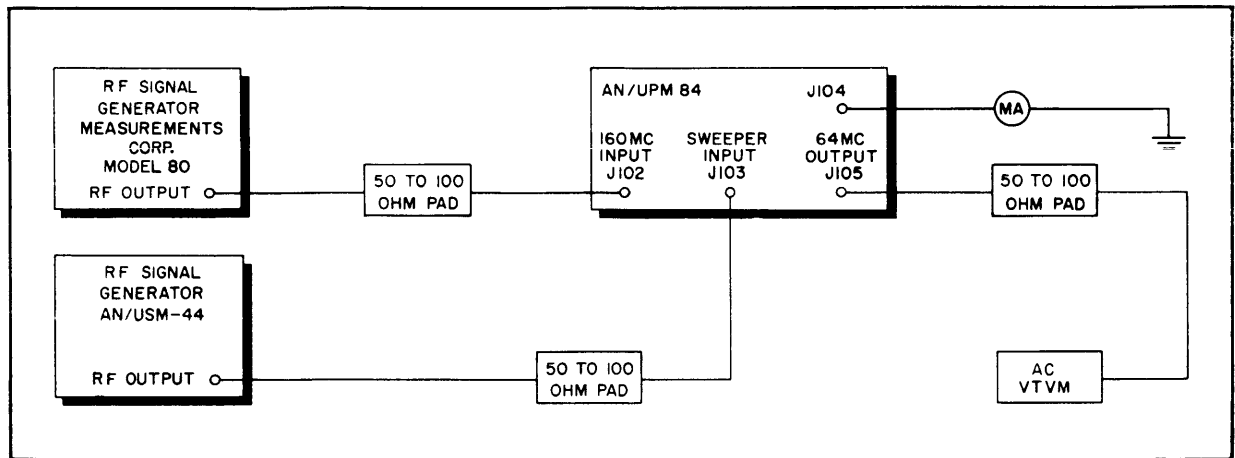
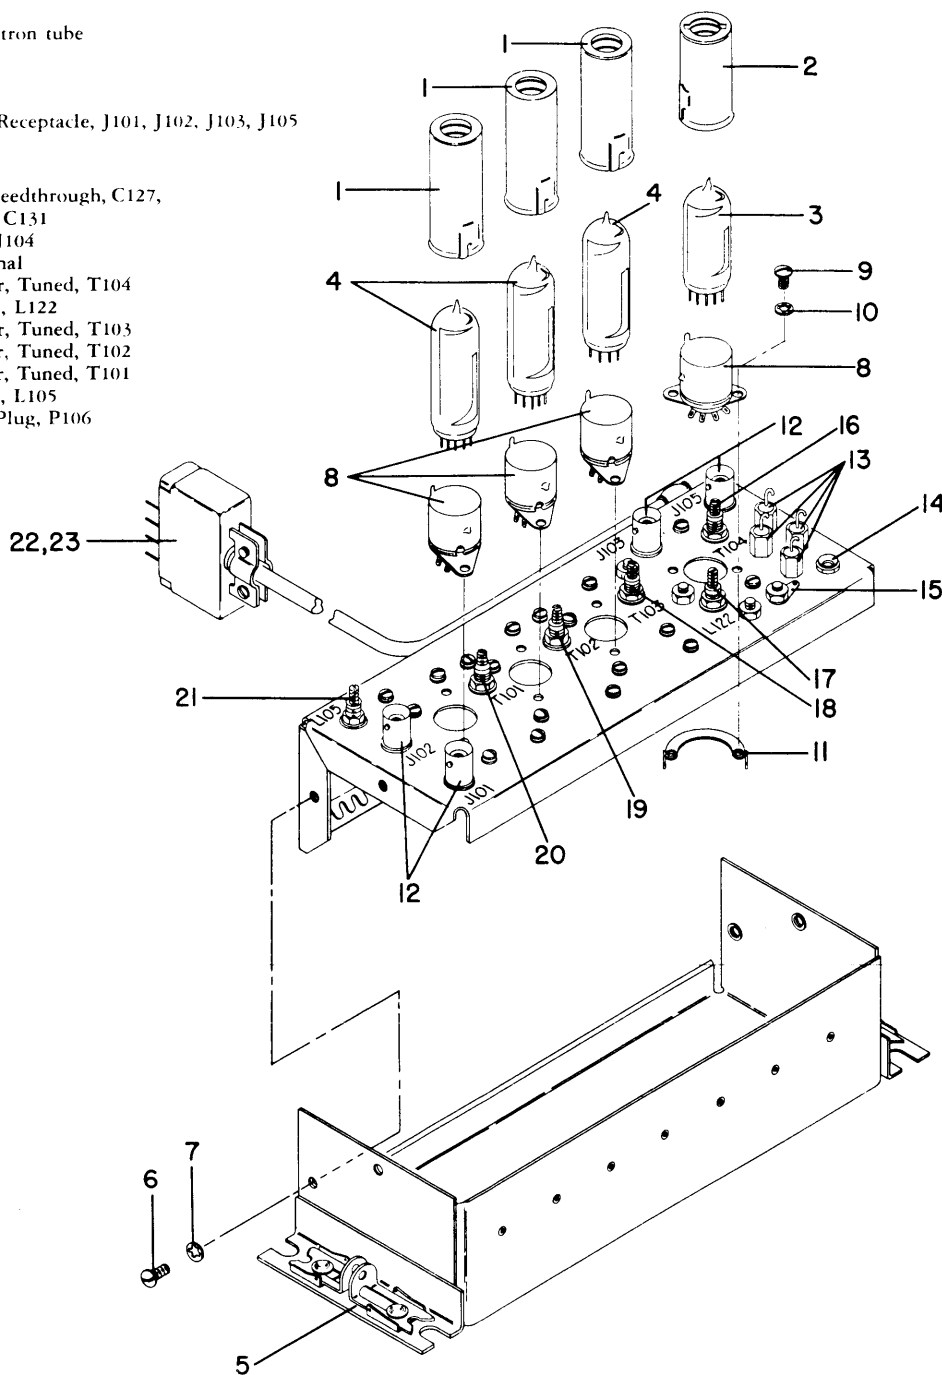

Figure 6-4. Checking Gain of Wide Band I-f Amplifier, Test Set-up Diagram
Figure 6-5. Wide Band I-f Amplifier, Exploded View
6-10. To check for minimum standards of wide band i-f amplifier gain, set up the equipment as shown in figure 6-4. Also refer to figure 6-5 for an exploded view of the wide band i-f amplifier chassis. The parenthetical numbers which follow refer to the index numbers of figure 6-5. Measure the gain of the wide band i-f amplifier over the pass band from 150 to 170 mc. A gain of approximately 50, at 160 mc, indicates satisfactory equipment performance. Failure to obtain this indication shows the need for re-alignment. Proceed as directed in the following steps:
b. Set the r-f output level of the Measurement Corp. Model 80 Signal Generator to cause the meter, connected to J104 (14), to indicate approximately 0.4 milliampere.
c. Peak transformers T101 (20), T102 (19), and T103 (18), to obtain a maximum indication on the milliammeter when applying test frequencies of 160 mc, 171 mc, and 149 mc, respectively. A minimum current indication of approximately 0.4 milliampere should be maintained during alignment adjustments, to assure uniform gain over the passband.
d. Check the i-f response for a nominal bandwidth of 25 mc (about a center frequency of 160 mc) to yield a maximum of 3 db fall-off at plus or minus 12.5 mc. Readjust T101 (20), T102 (19), and T103 (18), if necessary, to obtain correct frequency response.
f. Check the 64 mc stage by setting the AN/USM-44 Signal Generator to 64 mc, and applying the test signal to the SWEEPER INPUT jack, J103 (12).
g. Peak L122 (17) and T104 (16) for maximum indication on the vtm.
i. Shift the output of the AN/USM-44 Signal Generator from the SWEEPER INPUT jack, J103, to the 160 MC INPUT jack, J102. Apply the maximum amplitude test signal available, at 64 mc, and tune L105 (21) for a voltage minimum.
j. Check the overall operation of the wide band i-f amplifier by applying test signals, as shown in figure 6-4, of 224 mc to the SWEEPER INPUT jack, J103, and of 160 mc to the 160 MC INPUT jack, J102, simultaneously.
m. Retrim coil L122 (17) and transformer T104 (16) for a maximum indication on the vtm, if necessary.